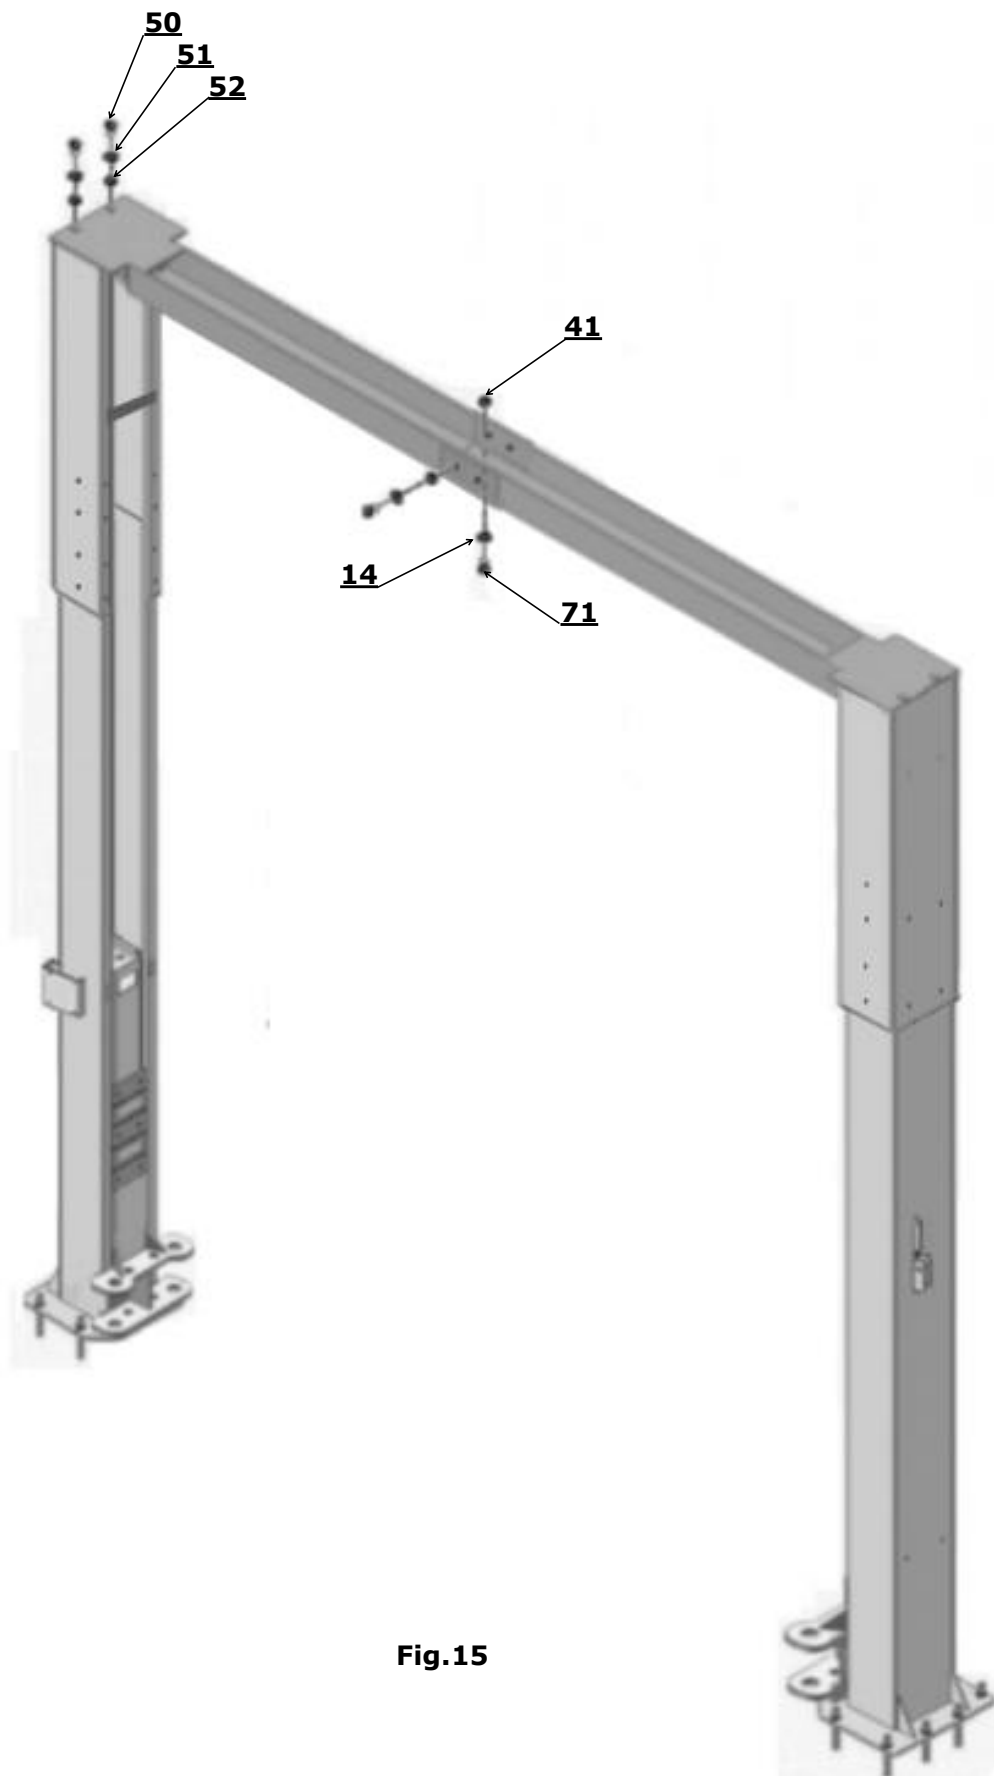

Fig.15
F. Mounting the top beam . Fig.15